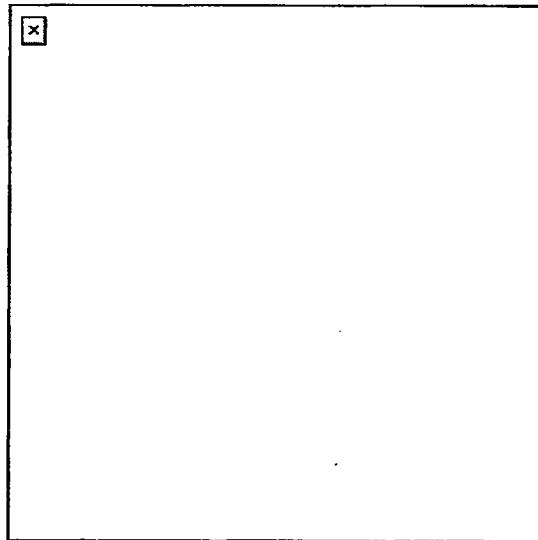

Figure 191-381-1252-1
- e. Check the hammer, safety, and trigger to see if they operate. Activate the disconnect assembly to see if it functions (Figure 191-381-1252-1).